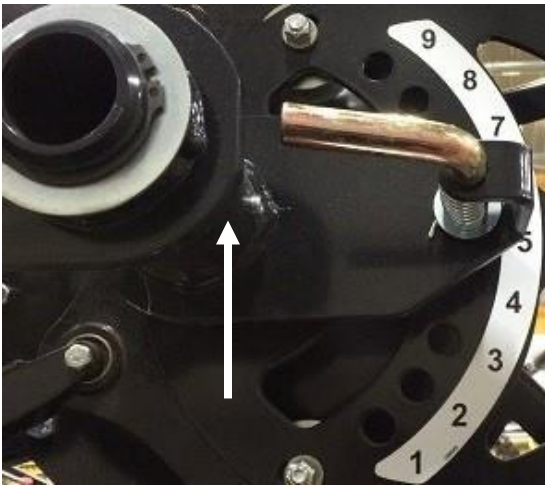

Figure 274
5. Check the bushings in the mount assembly. If there is wear on the bushings replace the bushings. There should be a grease fitting on the mounting tube. This grease fitting will lubricate both bushings. If a plug is present and not a fitting replace the plug with a 45 degree fitting. Figure 274